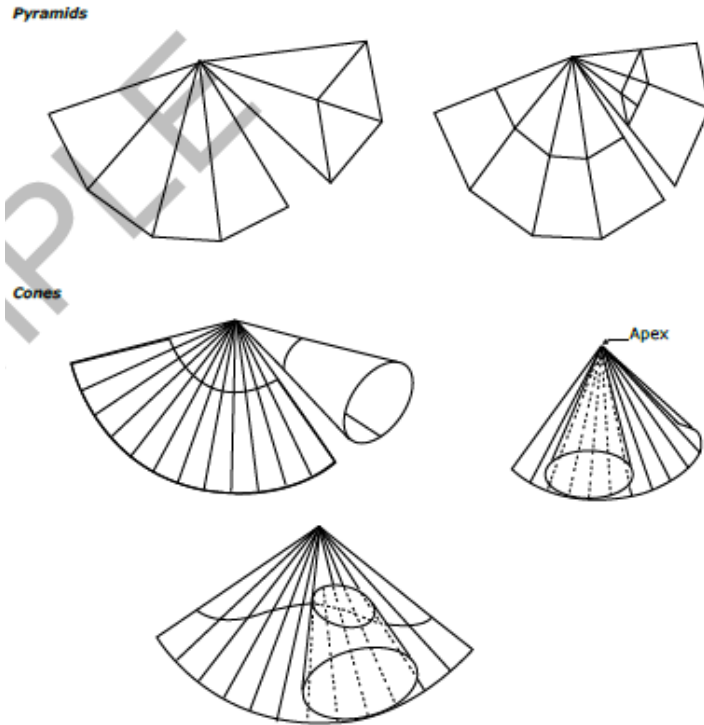

Figure 1.25.Radial line development of pyramid and frustum of a cone
4. Set the dividers equal to the distance of the step-offs on the half-plan and step off twice as many spaces on the arcs as on the half-plan; number the step-offs 1 to 7 to 1, as shown in the illustration (Figure 1.25).